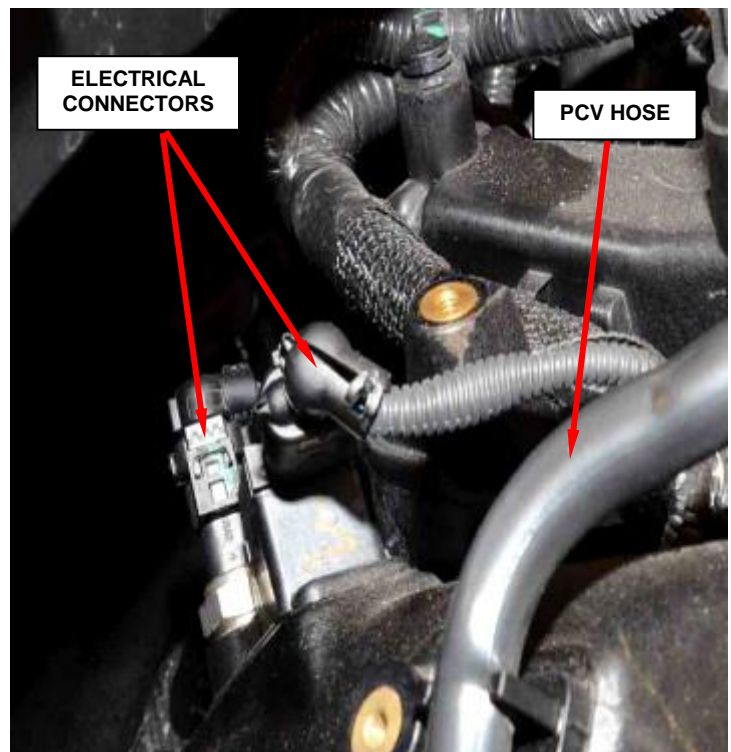

Figure 6 – Temp/Pressure Sensor
8. Remove the Temperature and Pressure sensor electrical connectors from the sensors in the turbocharger air outlet pipe (Figure 6).